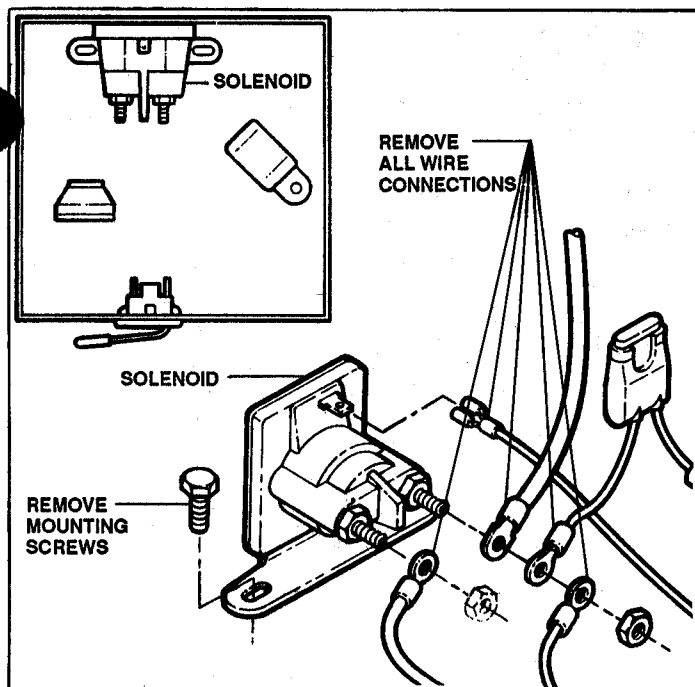

FIGURE 6.11
2. Remove all wire connections from the solenoid. See Figure 6.11.